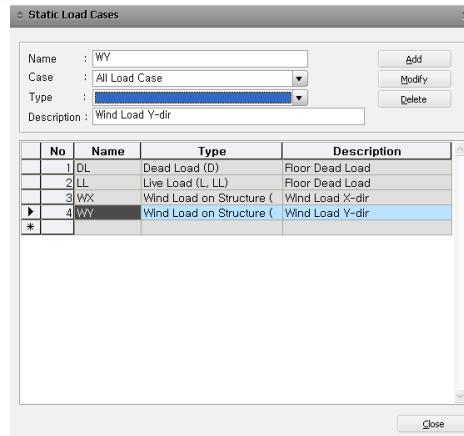

Figure 1.13 Definition of Load Cases
2. Enter “**DL**” in the **Name** field of the **Static Load Cases** dialog box (Fig.1.13).
6. Enter the remaining load cases in the **Static Load Cases** dialog box as shown in Fig.1.13.